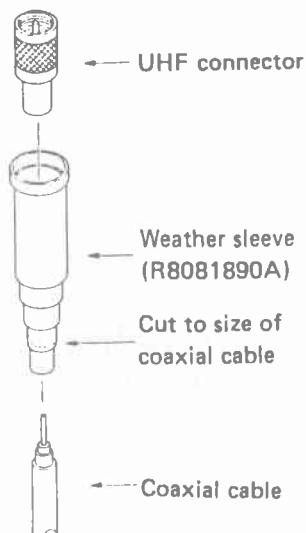

Figure 5
2. Referring to Figures 5 and 6, cut the small end of each weather sleeve to the correct size to provide a tight fit around the cables being used – one for each coax and one for the control cable. Then slide the sleeves over the cables and solder the wires to the connectors. The wiring of the 4-pin connector is indicated in Table 1 (previous page).